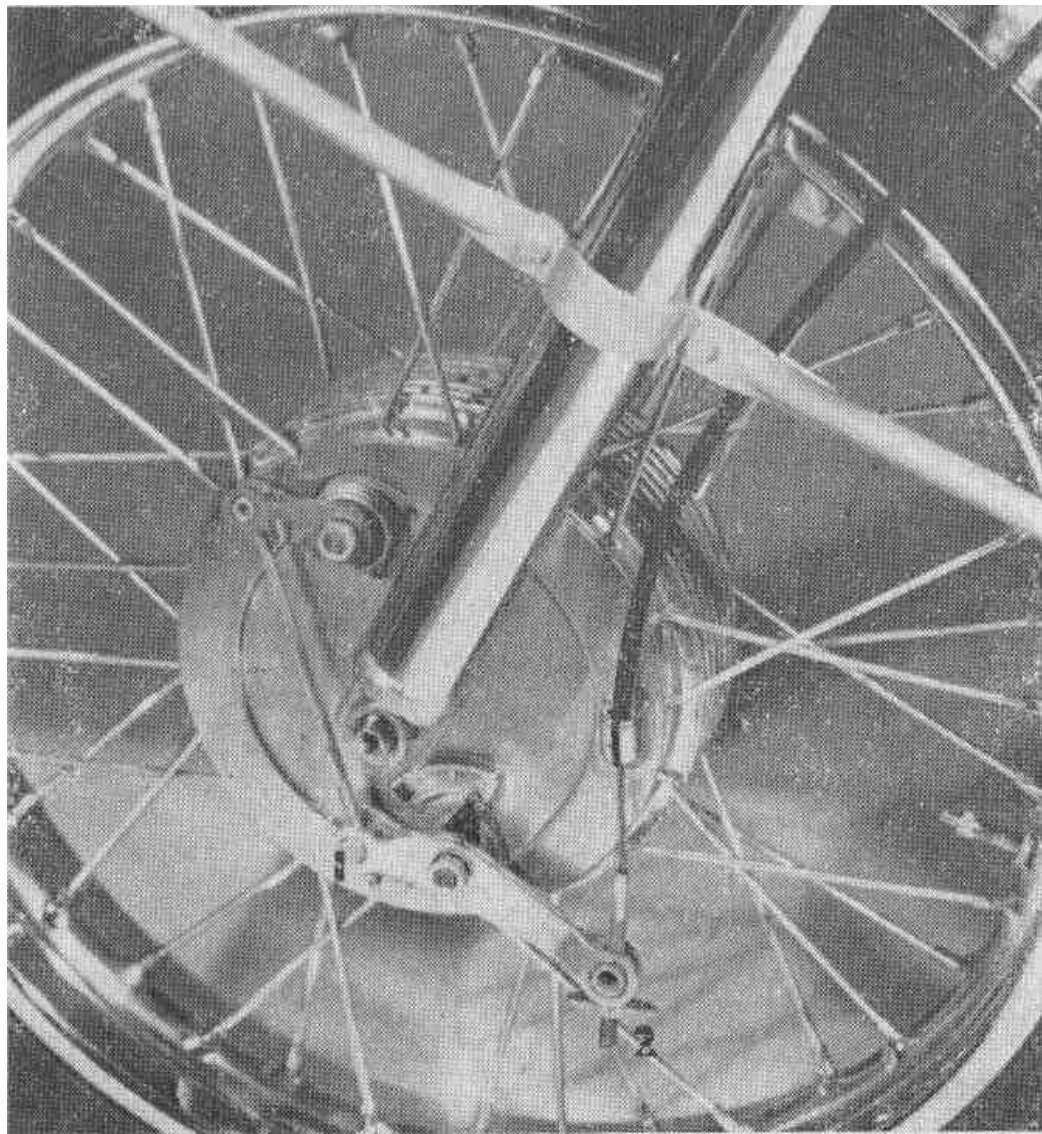

Fig. 18 – Adjustment of the front double-cam brake
5. ADJUSTMENT OF BRAKES (Fig. 18)